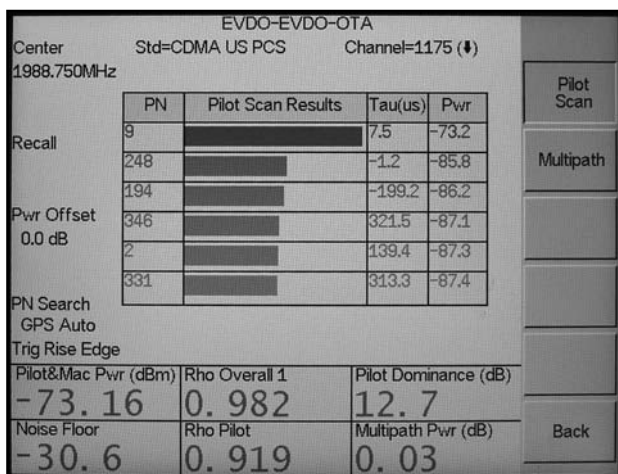

Figure 11. This graphic depicts the cdma2000 1xEV-DO OTA measurement screen.
13. Press the **Over The Air Meas** soft key and the **Pilot Scan** soft keys to display the readings (Figure 11).